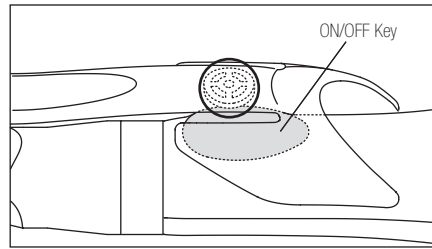

Fig. 7
- 2) Adjust the mounting location so that the convex portion beneath the lever (see circle in Fig. 7) comes into contact with the protrusion of ON/OFF Key.